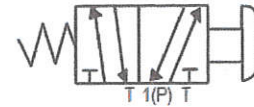

Figure A11 / Rajah A11
11. Choose the correct answer for hydraulic directional control valve symbol in Figure A11 below.